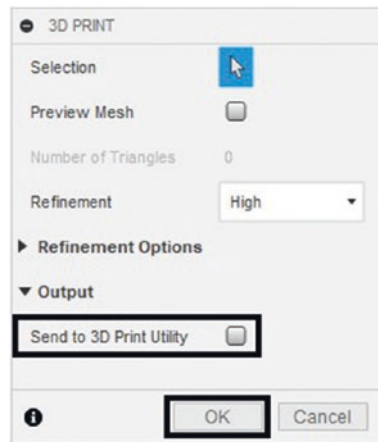

Figure 4-43. Deselect the “Send to 3D Print Utility” and click OK
3. If “Send to 3D Print Utility” checkbox is selected, remove the check. See Figure 4-43.
4. Click “OK” and select where you want the STL to go. See Figure 4-43.